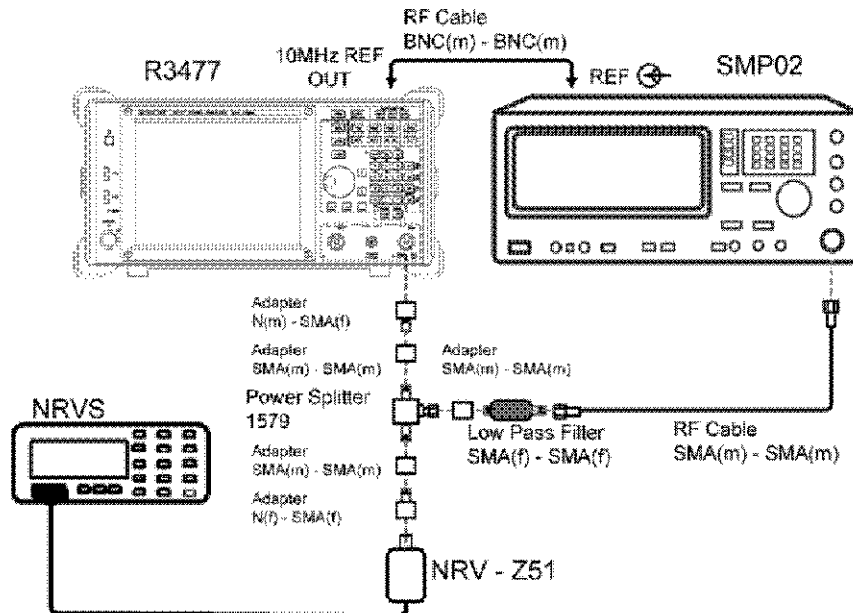

Figure 2-15 2nd Order Harmonic Distortion Test (with the Filter)
1. Connect the instruments as shown in Figure 2-15.